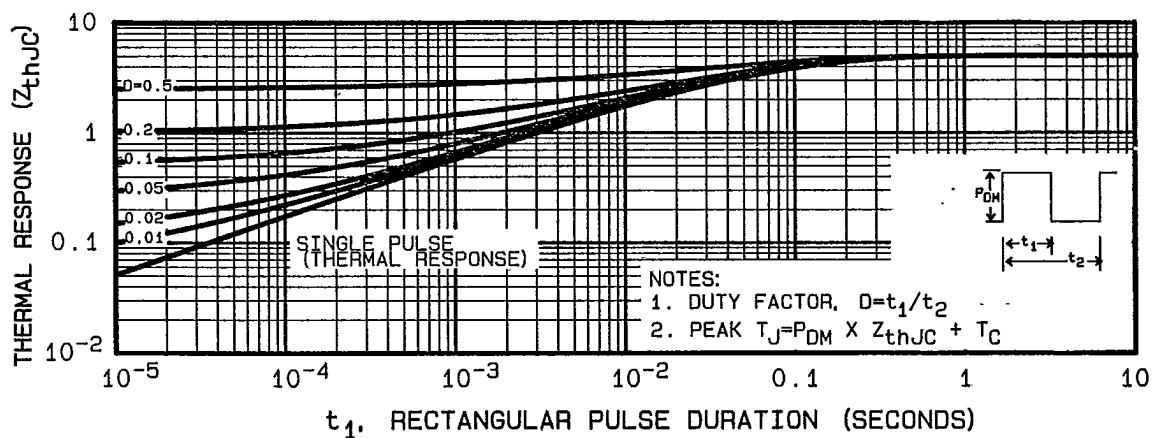

Fig. 5 — Maximum Effective Transient Thermal Impedance, Junction-to-Case Vs. Pulse Duration
① Repetitive Rating; Pulse width limited by maximum junction temperature (see figure 5)
② @ $V_{DD} = -25\text{V}$, Starting $T_J = 25^\circ\text{C}$,